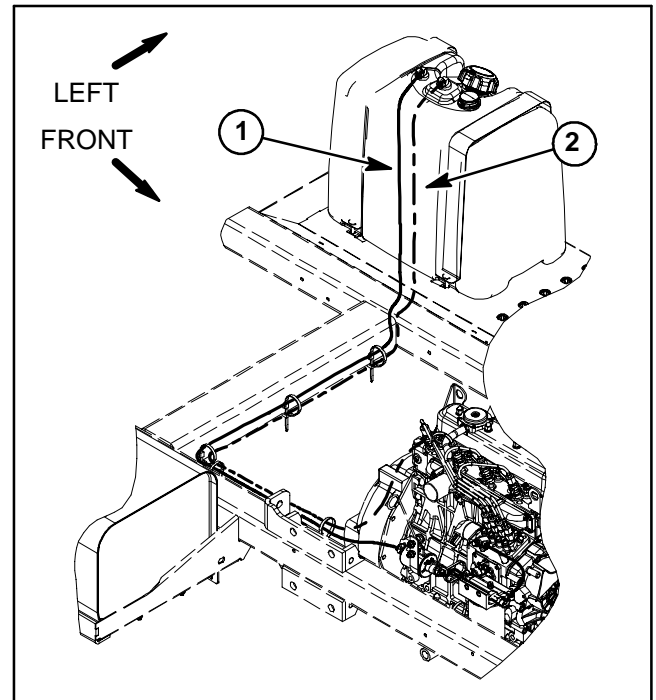

Figure 4
5. If necessary, remove fuel hoses from machine. Note fuel hose routing for assembly purposes (Fig. 4).